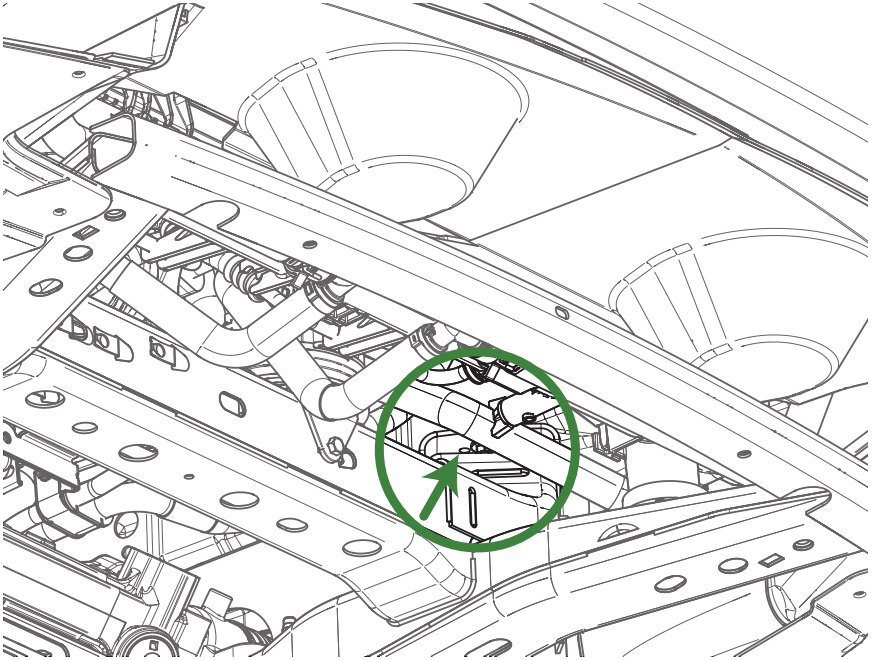
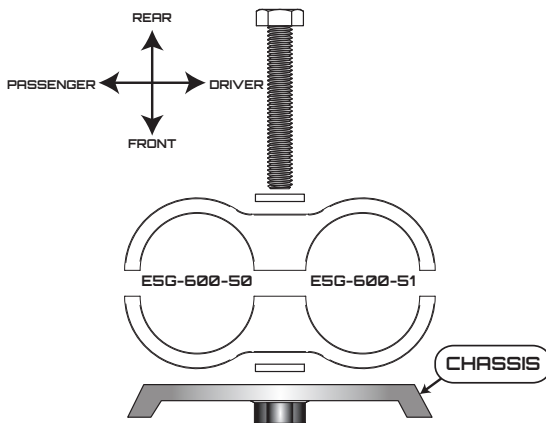

Figure 17 - Chassis Location for Middle Hose Clamp
Figure 18 - E5G-600-63 Hardware Pack Arrangement
25. Locate the threaded hole on the top of the chassis for the next clamp, shown in Figure 17, and secure the hoses with E5G-600-63 Hardware Kit as shown in Figure 18.